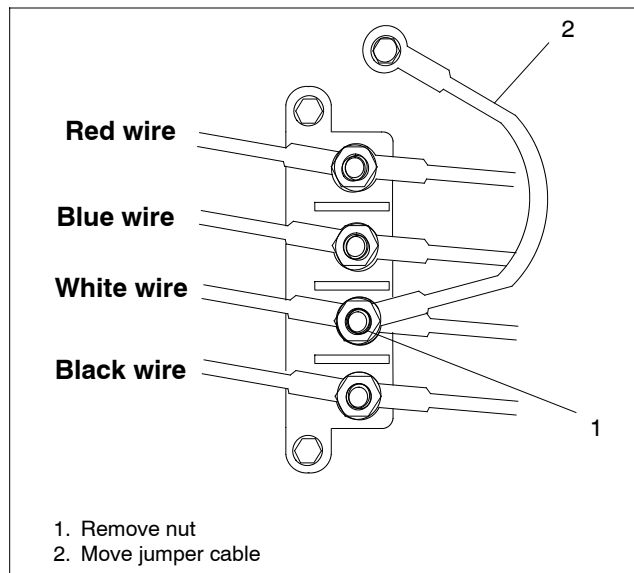

Figure 3 Current Jumper Cable Position
5. Using the 8mm socket, remove the nut holding the white jumper cable terminal in place. See Figure 3.